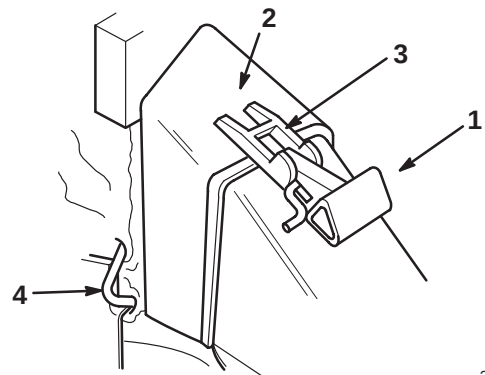

Figure 37
2. Ensure that the discharge door handle is fully forward (door closed) as shown in Figure 37.
3. Fit the bag door opening over the discharge tunnel opening as shown in Figure 37.
2. Lift the door latch until it clears the bag notch and move the discharge door handle forward (Fig. 37).